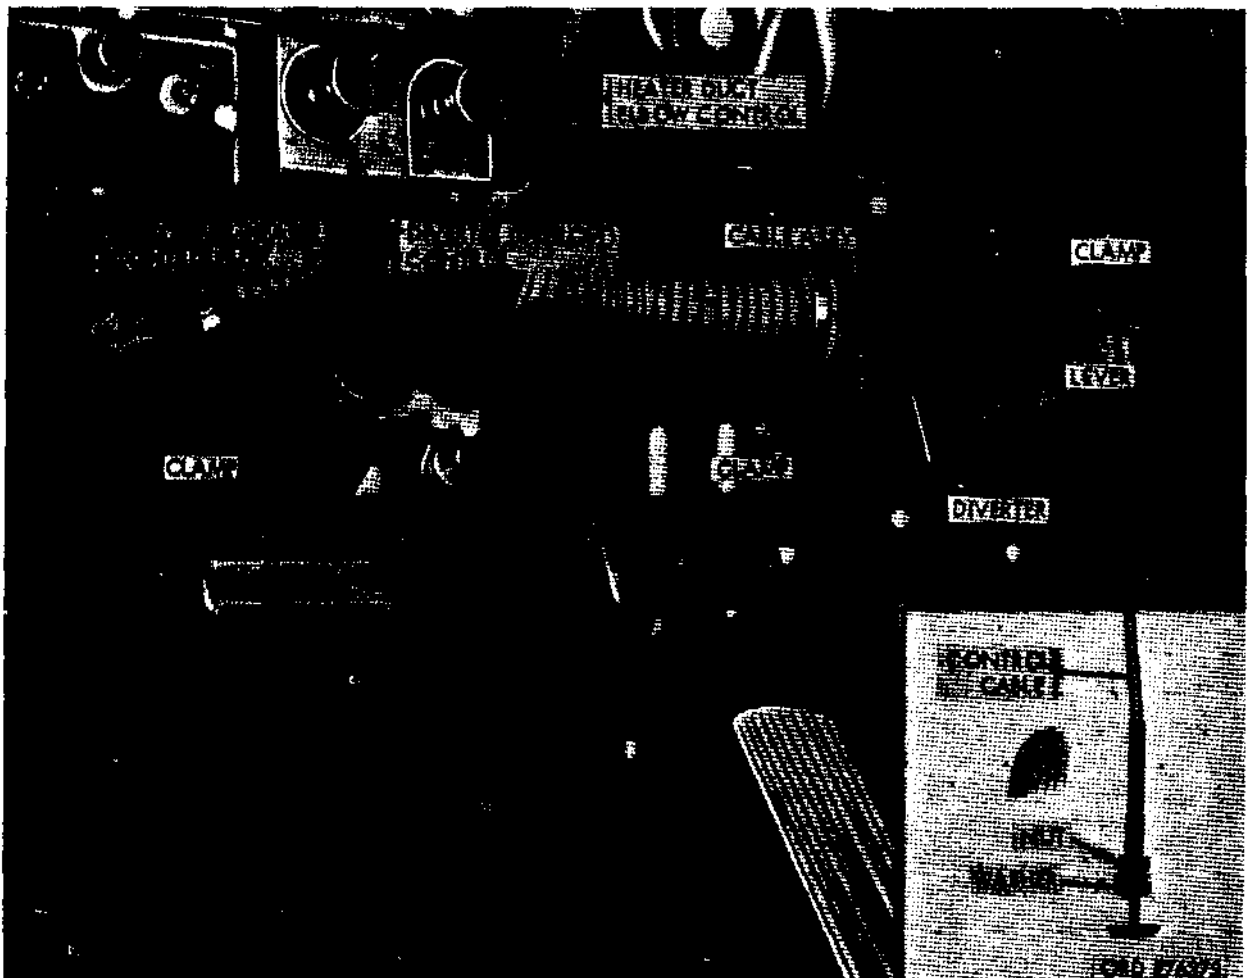

Figure 680. Control box and control cable installation.
- (1) Attach plate 10896371 to control box 10885798 using existing nuts and washers on control box studs. Attach box to center plate holes with holes for mounting to dash at front of box.
- (2) Butt plate and box assembly against left side of cab, with plate mounting holes against lower lip of instrument panel (Fig. 680).
- (3) With plate as template, mark location of mounting holes.
- (4) Center punch and drill two 9/32 dia. holes located in (3) above.
- (5) Mount box with plate to dash panel lip using two 1/4-28x3/4 screws MS 96906-35292-3 and nuts MS 96906-51922-5.
- (6) Install decal 10896515 on front panel of control box, 1/4 in. above the phrase "HEATER CONTROL".
- (1) Place control cable bracket 8359586 against underside of instrument panel (figure 680) next to the control box.
- (2) Using any two of three holes in bracket, mark location of mounting holes in panel lip which will not interfere with windshield wiper switch or switch air tubes.
- (3) Center punch and drill two 3/16 dia. holes located in (2) above and attach with two 10-32x5/8 screws MS 96906-35226-64 and nuts 7951286.
- (4) Place nameplate 7951468 (marked De-froster) over left bracket hole, and insert the diverter heat control cable through the left hole in the bracket and connect it to the diverter control lever (Fig. 680). Push the control knob fully in and position the cable in the control cable clamp so that the control lever is on the extreme right and tighten the control cable clamp. Place nameplate 7700351 over right bracket hole and insert the heater elbow control cable in the right hole of the mounting bracket connecting the end of this cable to the elbow control arm. Push the control knob fully in and position the cable in the control cable clamp so that the butterfly in
g. Install Elbow to Diverter Duct (Figure 680).
- (1) Slide one end of 4 in. x 19-1/2 in duct 7951506 onto end of elbow (*d* above) and secure with clamp MS 96906-35842-4.
- (2) Slide other end of ducting onto diverter opening (Fig. 680) and secure duct to diverter with another clamp MS 96906-35842-4.